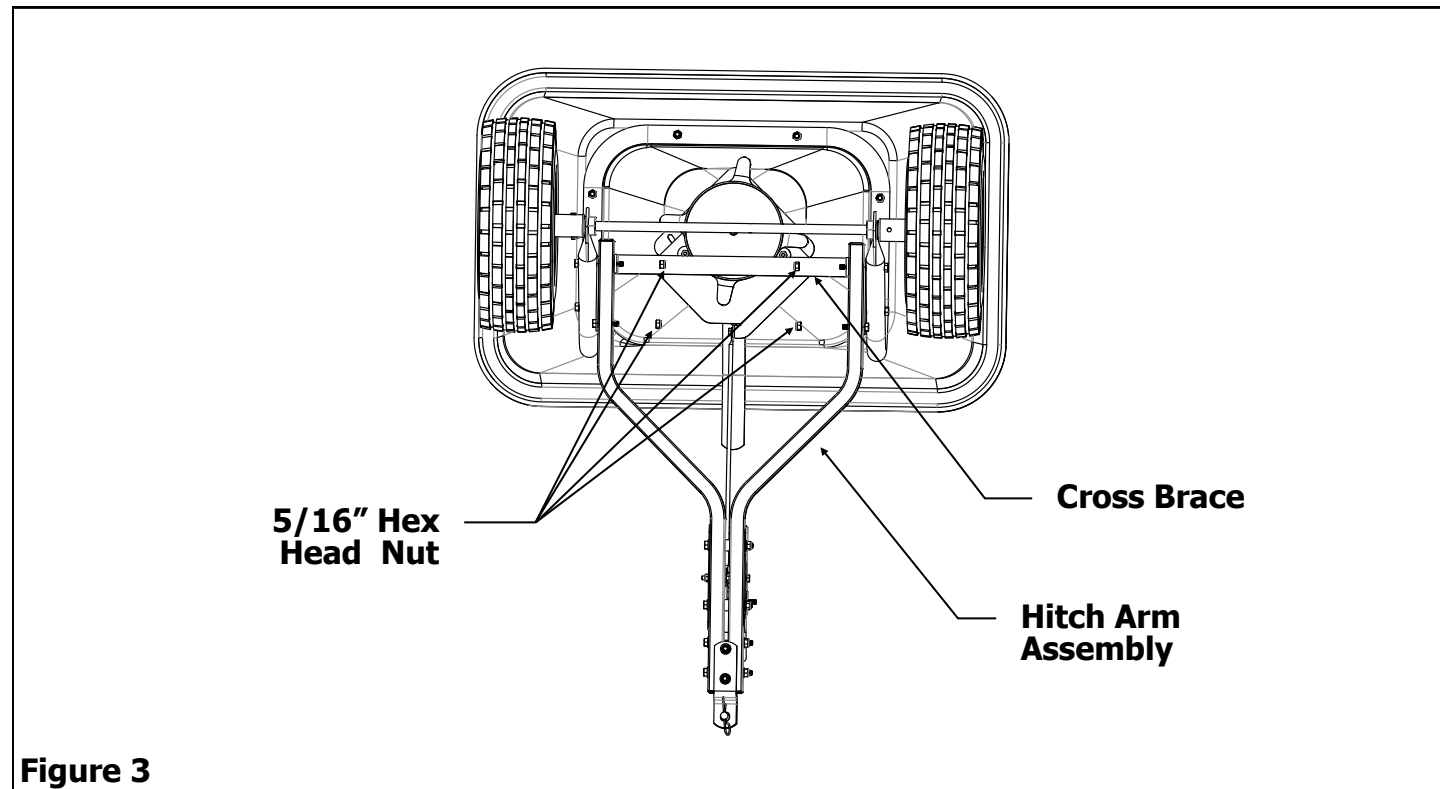

Figure 3
3. Attach the Hitch Arm Assembly and re-insert the Cross Brace inside both sides of the Hitch Arm Assembly. Secure with the two removed 5/16" x 2" Hex Head Bolts and two 5/16" x 3" Hex Head Bolts then reattach the four 5/16" Nylock Nuts. See Figure 3.